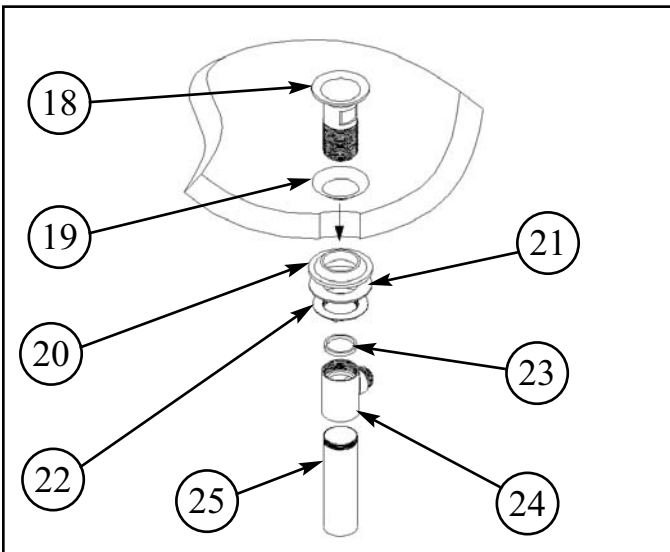

Figure 5
6. Remove drain PLUG (17) from FLANGE (18). Place FLANGE (18) and white WASHER (19) through sink drain opening. (Clear silicone may be used in place of white washer(19).) From bottom side of sink, place cone shaped rubber WASHER (20) onto FLANGE (18) and slide up against sink bottom. Note: Cone portion of WASHER (20) to face upward. Next slide on clear flat WASHER (21) and secure with flange NUT (22). Place clear WASHER (23) into drain BODY (24) and tighten to FLANGE (18). Apply thread sealant to TAILPIECE (25) and attach to drain BODY (24). Attach TAILPIECE (25) to p-trap drain (not included). See Figure 5.